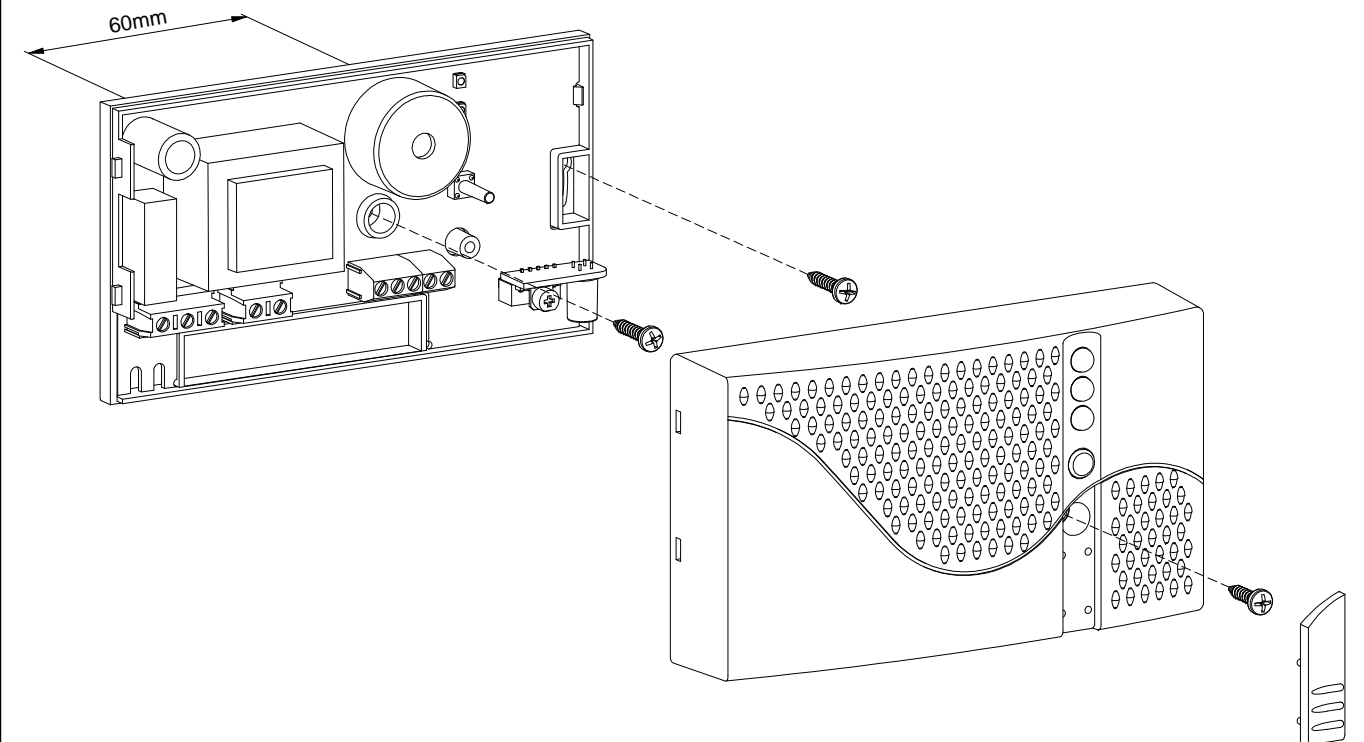
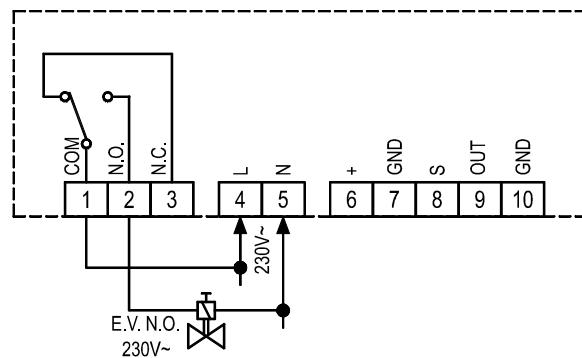

Fig. 2: Installation example of SEGUGIO plus -
Fig. 3: Wiring diagram with a manual reset normally open 230V~ electro-valve and 230V~ power supply.
3. Remove the detector's panel as shown in Fig. 2.
opening for cables located in the plastic plate. In order to reach the wiring zone, remove the plastic plate on the cover as indicated in Fig. 2 and remove the screw beneath. Make electrical wirings as indicated in Fig. 3, 4, 5, 6, 7 or 8. Please note that the intervention delay is strictly dependant both on a correct positioning of the detector in the room and to the type of gas to be detected. In case of 'heavy' gases as for LPG an installation in low places is advisable (roughly 30 cm from floor), instead for 'light' gases as for methane in high places (roughly 30 cm from ceiling).